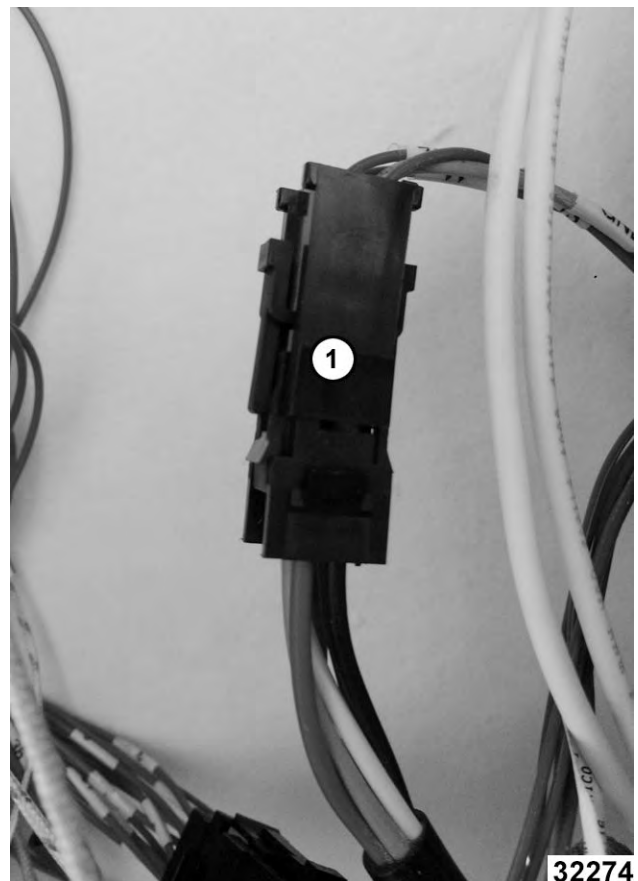

Fig. 23
2. Disconnect motor harness (1, Fig. 23).